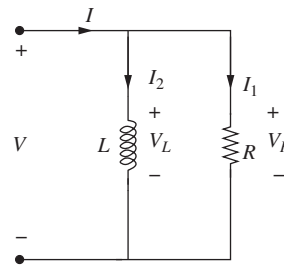

Figure P5.30 A current divider circuit for problems P5-30 and P5-31.
- 5-30.** In the current divider circuit shown in Fig. P5.30, the sum of the current phasors I_1 and I_2 is equal to the total current phasor I (i.e., $I = I_1 + I_2$).
- 5-31.** In the current divider circuit shown in Fig. P5.30, the currents flowing through the resistor I_1 and inductor I_2 are given by